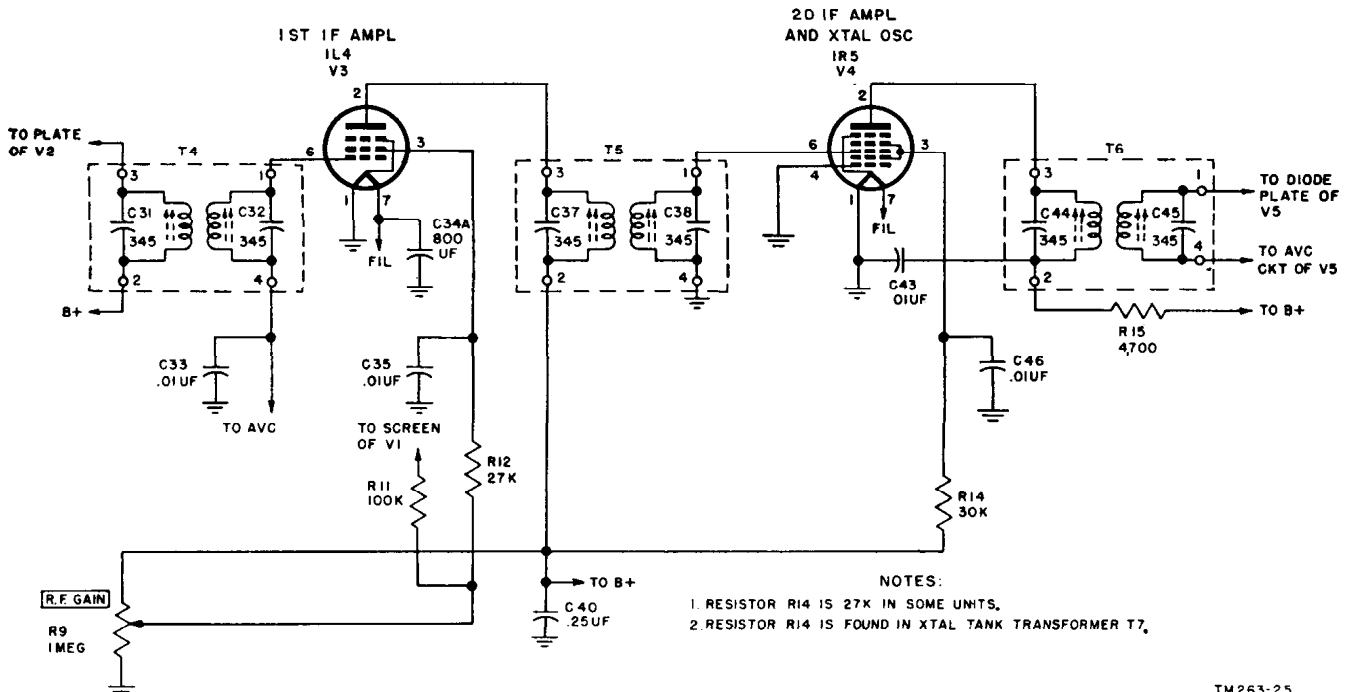

Figure 60. If. amplifiers, simplified schematic diagram.
c. The hf oscillator is tuned by TUNING capacitor C7C so that it is always 456 kc higher in frequency than the signal frequency. Thus, when the received signal from the rf amplifier is applied to grid 3, pin 6, of tube V2, the two frequencies will beat together, forming sum and difference frequencies. The tuned primary of if transformer T4 (fig. 60) is resonant at the difference frequency of 456 kc and, therefore, allows only this frequency to continue on to first if amplifier V3.
90. Intermediate Amplifiers V3 and V4 (fig. 60)
f. Resistor R14, which is located within T7, is the screen grid voltage-dropping resistor. Capacitor C41 prevents rf energy from entering the power supply by placing the lower end of the crystal and the tank circuit at ground potential. Capacitor C39 and grid leak resistor R13 develop the bias voltage for the oscillator grid, pin 4. Capacitor C46, the usual screen grid bypass (fig. 60) is removed from ground by switch S3-1, placed in the CAL. position (par. 95) to permit the oscillator section to function.
- (1) In the PHONE position, avc is fed through R1 to the control grid of V1 (fig. 57) and through the secondary of T4 to the control grid of if. amplifier tube V3 (fig. 60). To prevent dis-